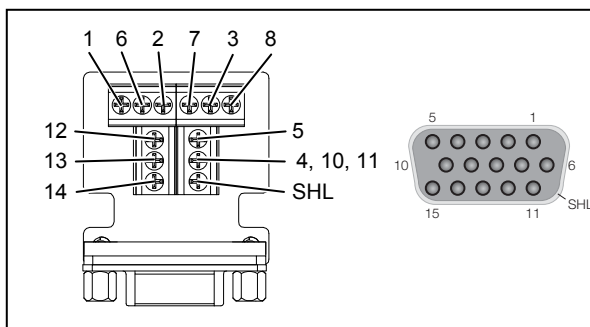

Figure 8
- When using the VGA socket with screw-in lift terminals, prepare the wire ends and connect to the terminals according to the terminal assignment (Figure 8, Table 1).